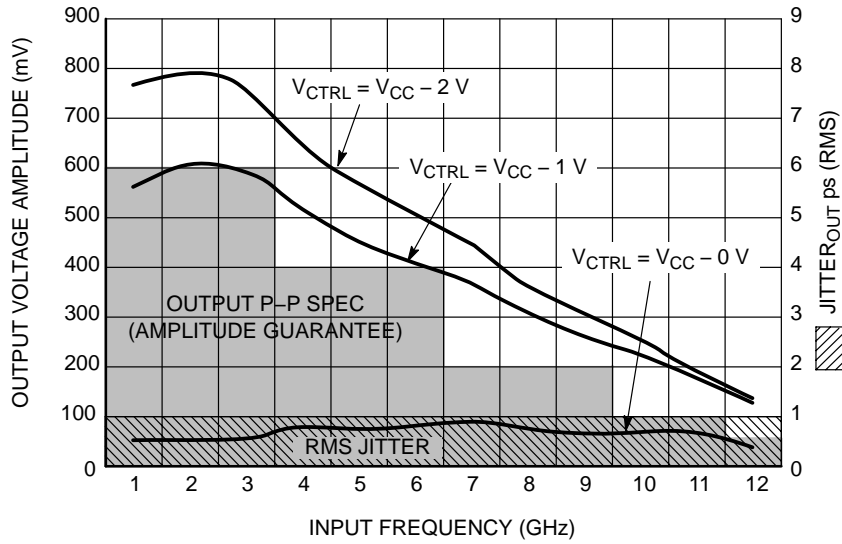

Figure 8. Output Voltage Amplitude (V_{OUTPP}) / RMS Jitter vs. Input Frequency (f_{in}) at Ambient Temperature (Typical)
29. Conditions include input amplitude of 500 mV and $V_{CTRL} = V_{CC} - 2\text{ V}$. Minimum output amplitude guarantee of 100 mV (see Output P-P Spec in Figure 8).
37. Conditions include input amplitude of 500 mV and $V_{CTRL} = V_{CC} - 2\text{ V}$. Minimum output amplitude guarantee of 100 mV (see Output P-P Spec in Figure 8).